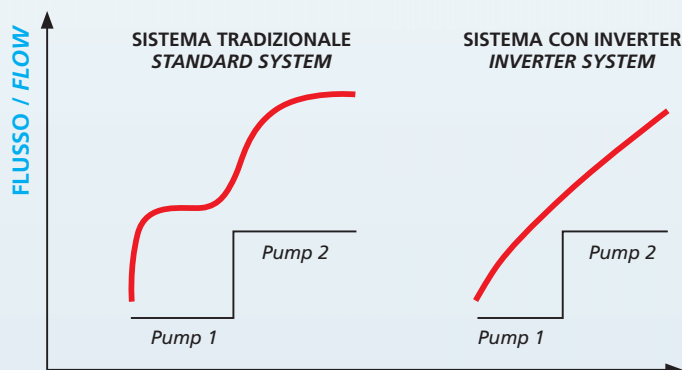

Fig. 3
- Serial BUS connection of two or more pumps controlled by communicating Inverters (principle of work described in Fig. 3).